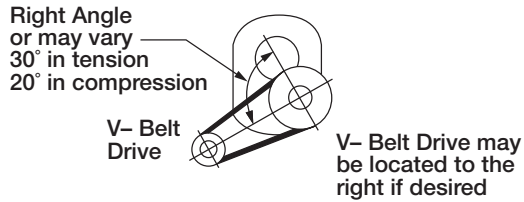
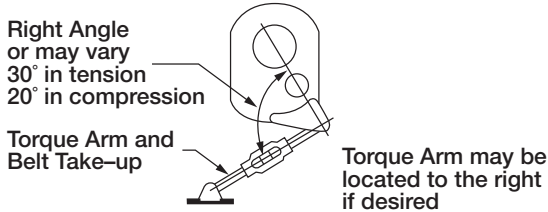

Figure 3 - Installation of Motor and V-Belt Drive
Figure 4 - Tighten Belt with Torque Arm Screw
- Install motor and V-belt drive so belt will approximately be at right angles to the center line between driven and input shaft. (See Fig. 3.) This will permit tightening the V-belt with the torque arm screw. (See Fig. 4.) Make sure that there is sufficient take-up in the turnbuckle for belt tension adjustment when using V-belt drive
- Install torque arm and adaptor plates using the long reducer bolts. The bolts may be shifted to any of the holes on the input end of the reducer. Fig. 3